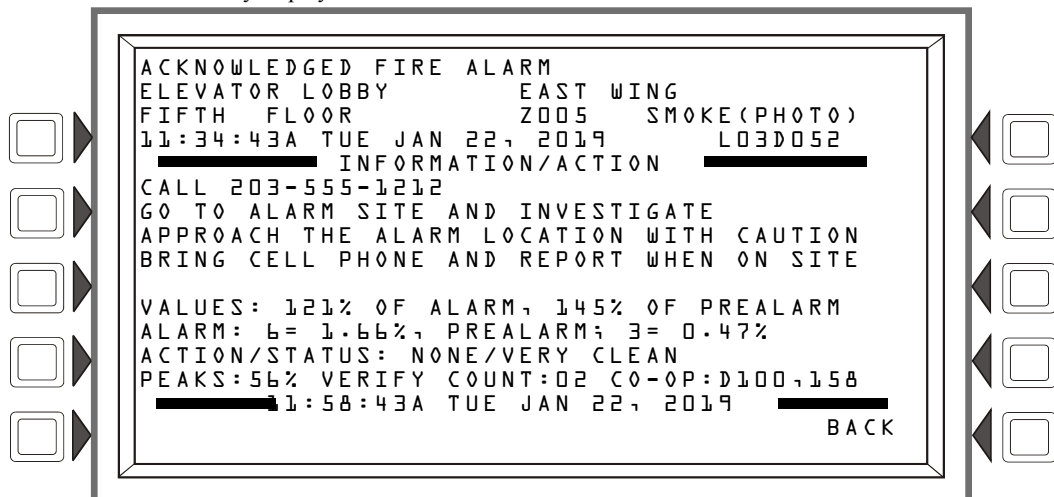

Figure 1.9 More Information Screen
1. Check the Alarm message for its location and type. Press the MORE INFORMATION soft key to display the MORE INFORMATION screen and view additional information on the device and possibly preprogrammed text for recommended action. (Refer to Figure 1.9 on page 14 for an example of the this screen and an explanation of its fields.)